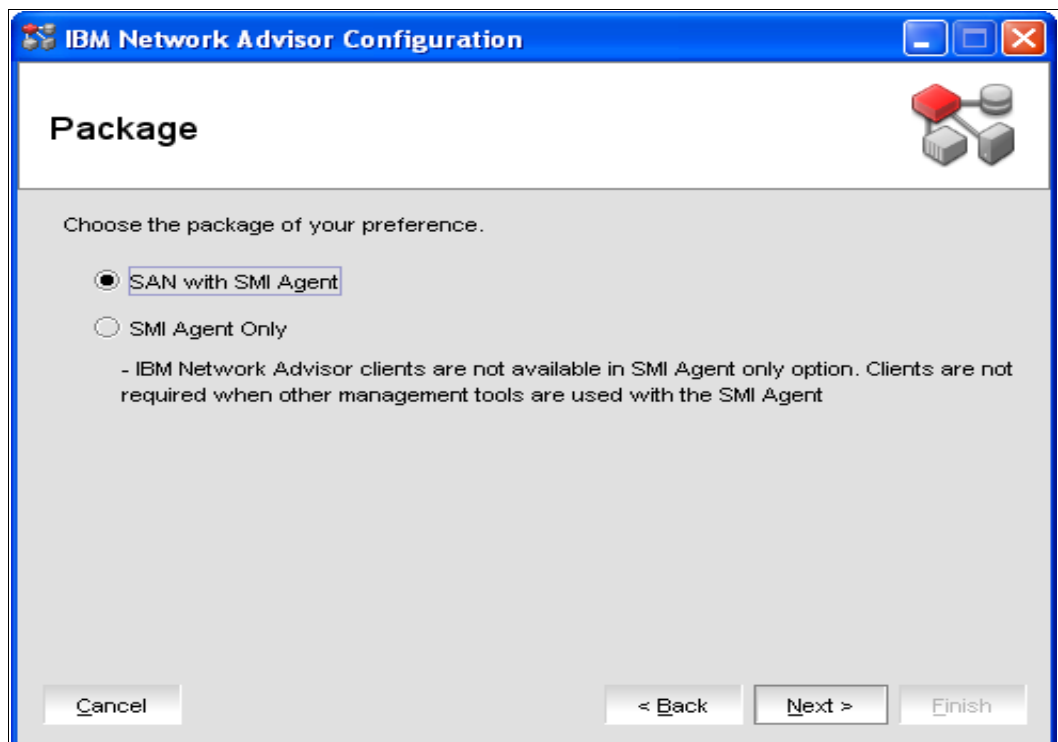

Figure 8-6 Select Package
5. On the Package window, select SAN with SMI agent, as shown in Figure 8-6, and click **Next**.